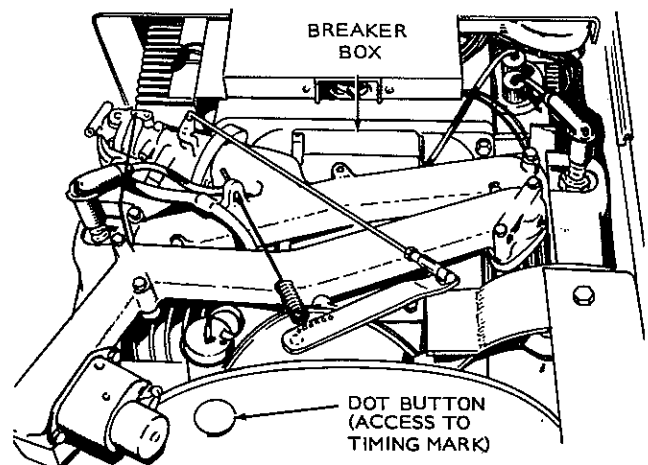

FIGURE 10-27. BF POWER DRAWER TIMING MARK
7. ON POWER DRAWER UNITS: Remove dot button on blower housing. This provides access to view the timing mark, Figure 10-27.